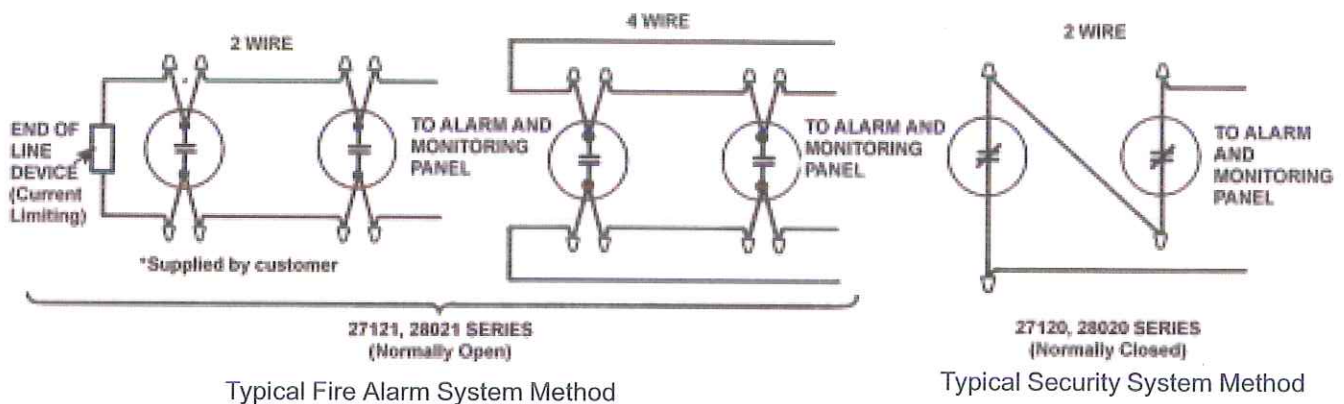

Figure 3. System Wiring
- Connect system wiring to detector per Figure 3 and applicable electrical codes.